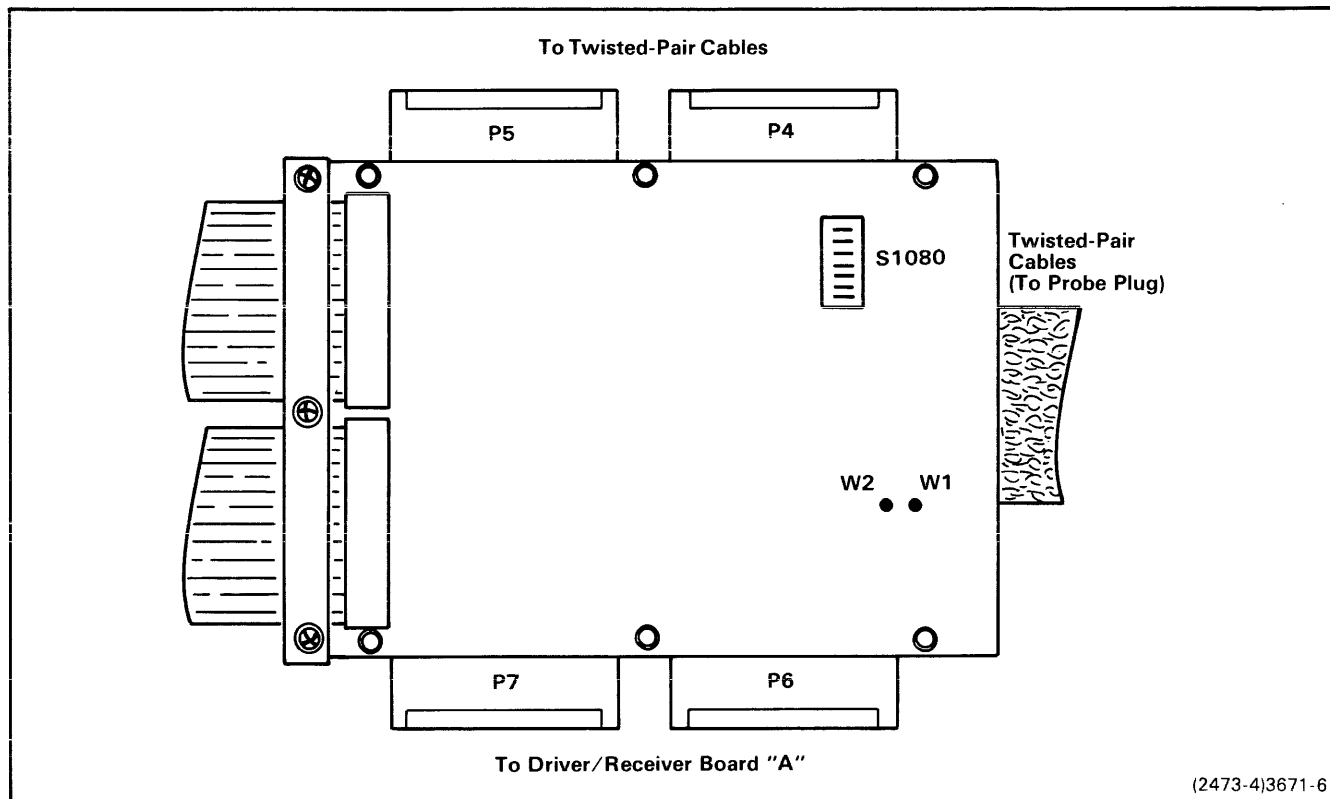

Fig. 2-4. 8022 Prototype Control Probe, Driver/Receiver board "B"; location of S1080 and cuttable run.
The 8022 microcomputer device has two selectable pullup options. These options are implemented by a high-impedance option switch (S1080) and a cuttable run (T1), located on Driver/Receiver board "B" in the 8022 Prototype Control Probe's interface assembly (see Fig. 2-4). S1080 is an 8-section DIP switch package that allows each of the eight Port 0 lines to connect to a high-impedance pullup device when required by the user.
2. Locate switch pack S1080 (see Fig. 2-4). To implement the 8022 Port 0 high-impedance pullup option, switches 1-8 must be in the ON position.